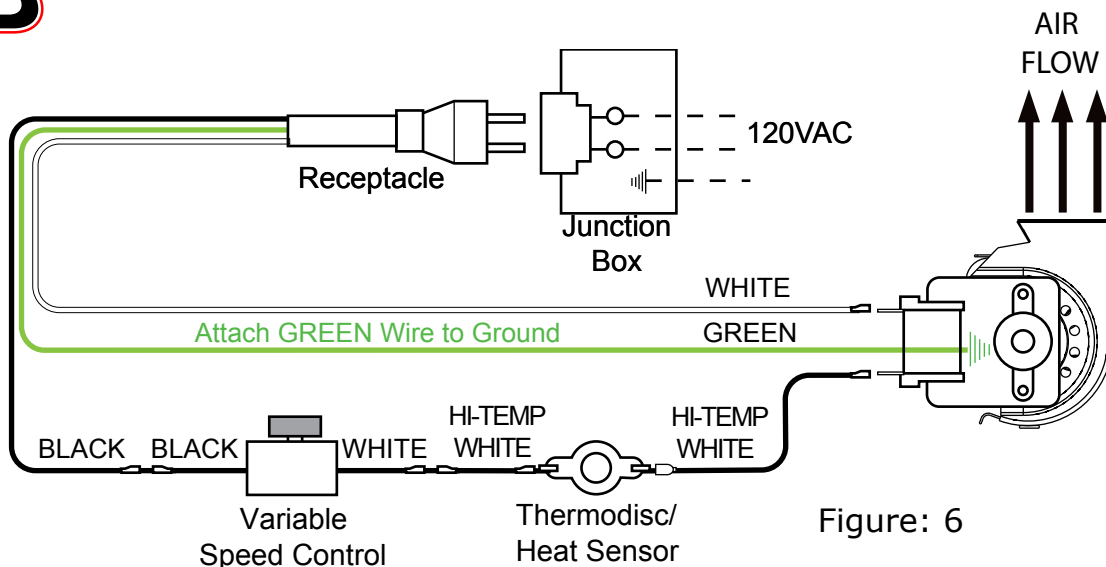

Figure: 6
- Wiring Diagram for this Blower Kit is illustrated in Figure: 6.